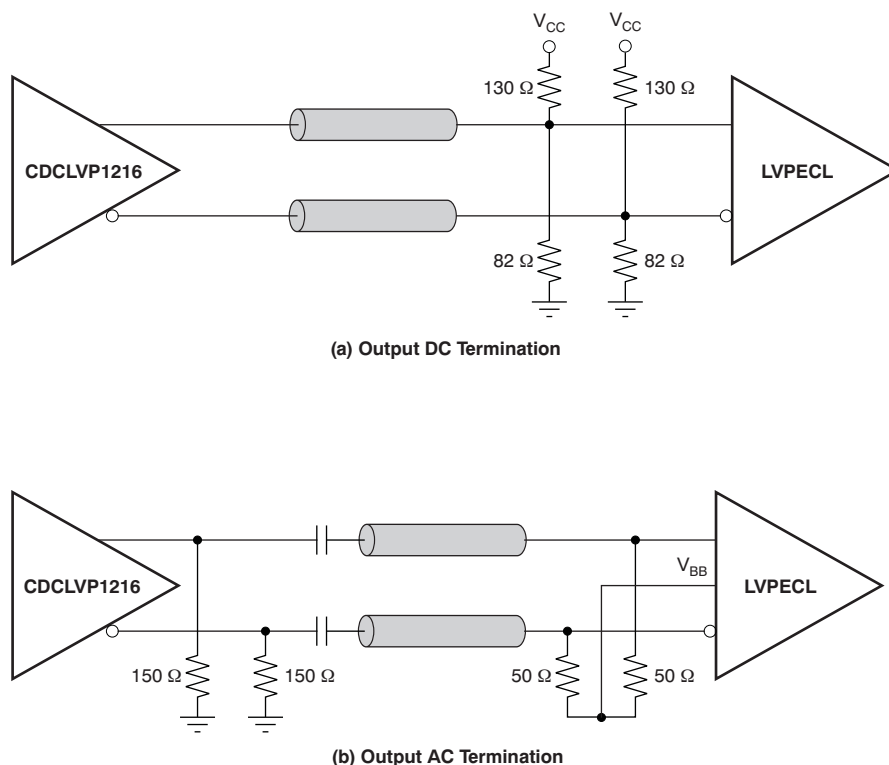

Figure 13. LVPECL Output DC and AC Termination for $V_{CC} = 3.3\text{ V}$
The CDCLVP1216 uses an open emitter follower stage for its LVPECL outputs. Therefore, proper output biasing and termination are required to ensure correct operation of the device and to maximize output signal integrity. The proper termination for LVPECL outputs is a $50\ \Omega$ to $(V_{CC} - 2)\text{ V}$, but this DC voltage is not readily available on PCB. Therefore, a Thevenin equivalent circuit is worked out for the LVPECL termination in both direct-coupled (DC) and AC-coupled configurations. These configurations are shown in Figure 12 (a and b) for $V_{CC} = 2.5\text{ V}$ and Figure 13 (a and b) for $V_{CC} = 3.3\text{ V}$, respectively. It is recommended to place all resistive components close to either the driver end or the receiver end. If the supply voltage for the driver and receiver is different, AC coupling is required.